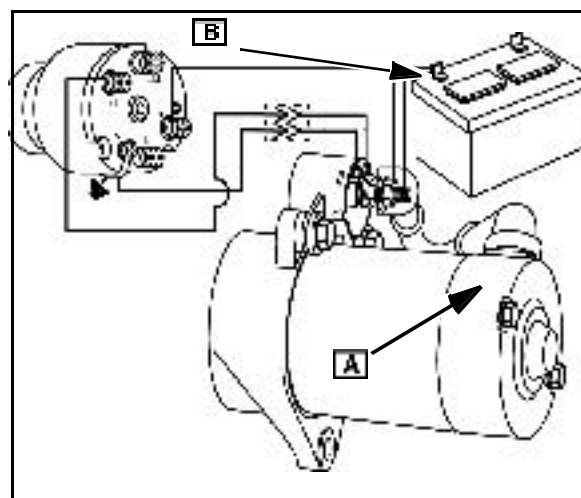

Fig. 56
3. Disconnect wire from starter terminal ([A] Fig. 56).
4. Connect BLACK test lead to engine ground or negative battery (-) post (B).